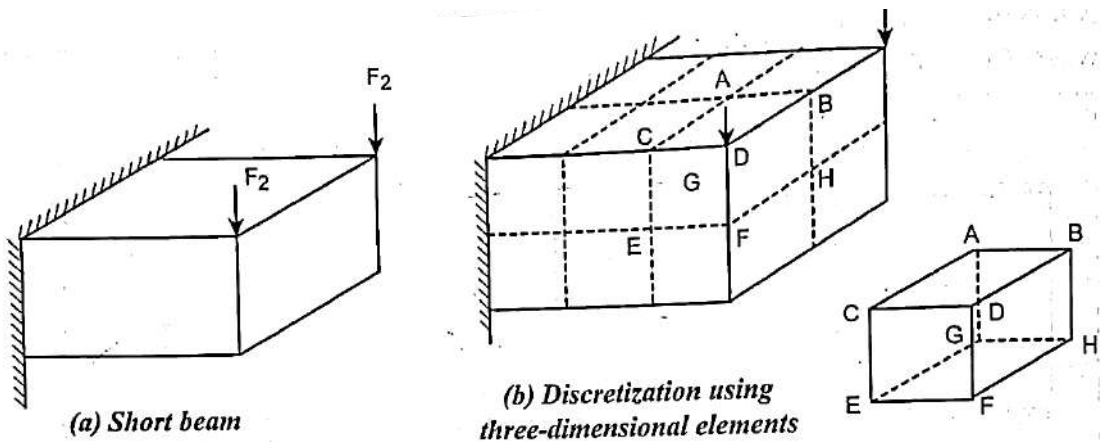

Figure 1.19. (a) Short beam (b) Discretization using three-dimensional elements
- The finite element idealization can be done by using three dimensional rectangular element in stress analysis of short beam problem which is shown in Fig.1.19.